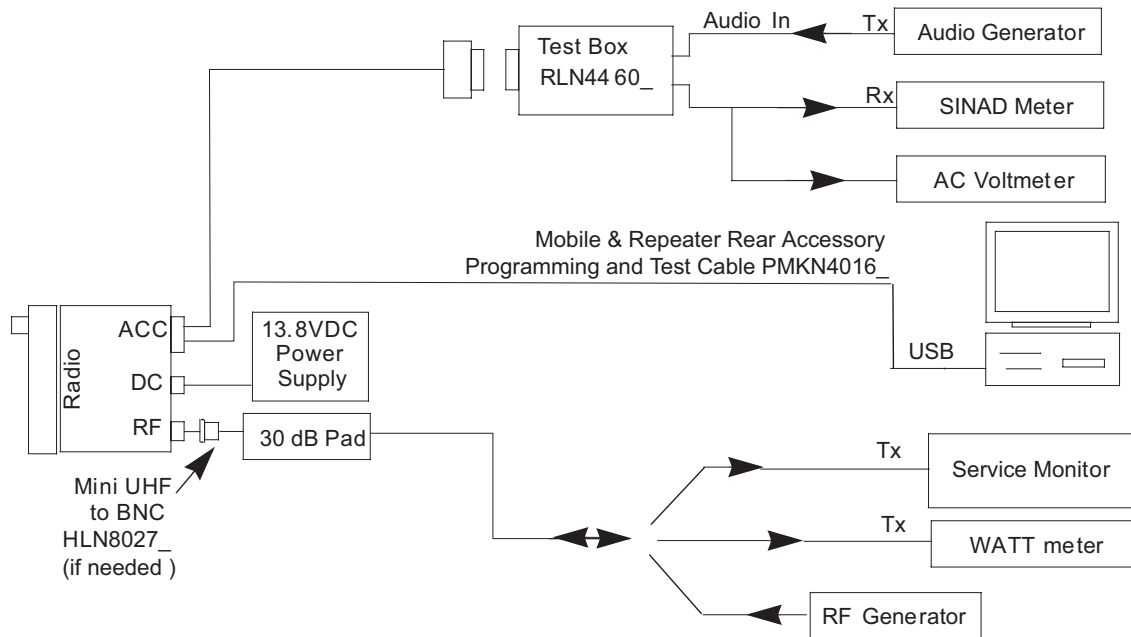

Figure 4-4 Radio Tuning Equipment Setup
A personal computer (PC), Windows Vista/XP and a tuner program (which is available as part of the MOTOTRBO CPS kit) are required to tune the radio. To perform the tuning procedures, the radio must be connected to the PC and test equipment setup as shown in Figure 4-4.